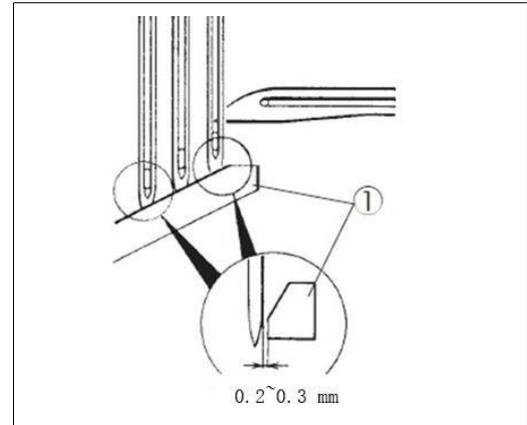

Figure 7-22
(1) Align the hook tip with the center of the right needle. (Figure 7-22)